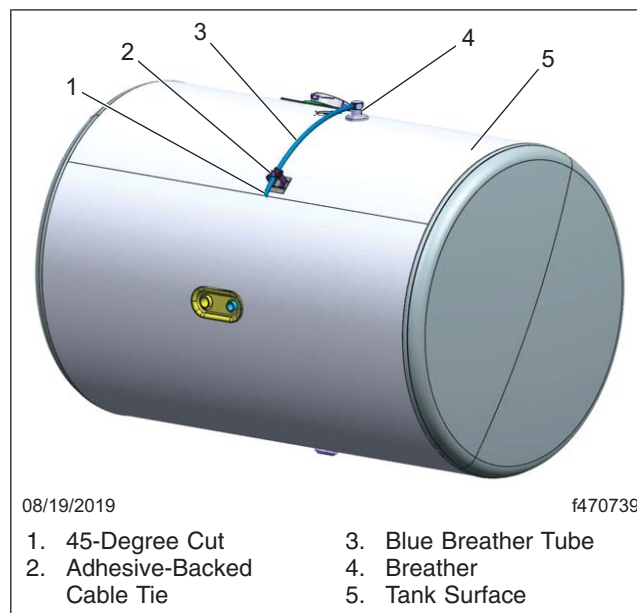
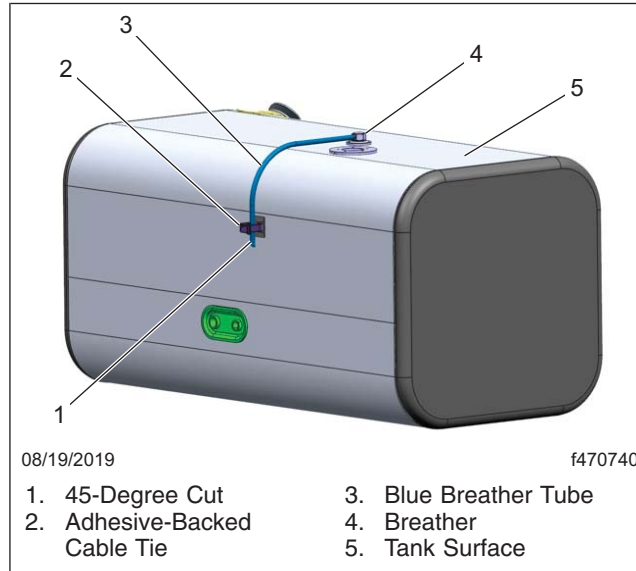

Fig. 2, Cylindrical Fuel Tank
Fig. 3, Rectangular Fuel Tank
4. Trim the end of the breather tube at a 45-degree angle with the tube opening facing to the rear of the fuel tank. See Fig. 2 and Fig. 3.
5. Install the adhesive-backed cable tie on the fuel tank surface approximately 2.5 inches from the end of the breather tube. See Fig. 2 and Fig. 3.